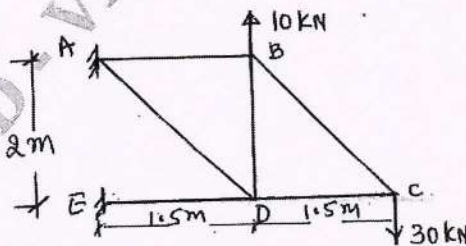

Fig. Q6 (c)
c. Determine the horizontal deflection at 'C' of the truss loaded as shown in Fig. Q6 (c) using unit load method. All the members have same cross sectional area of 1500 mm^2 and $E = 200 \text{ GPa}$. (10 Marks)